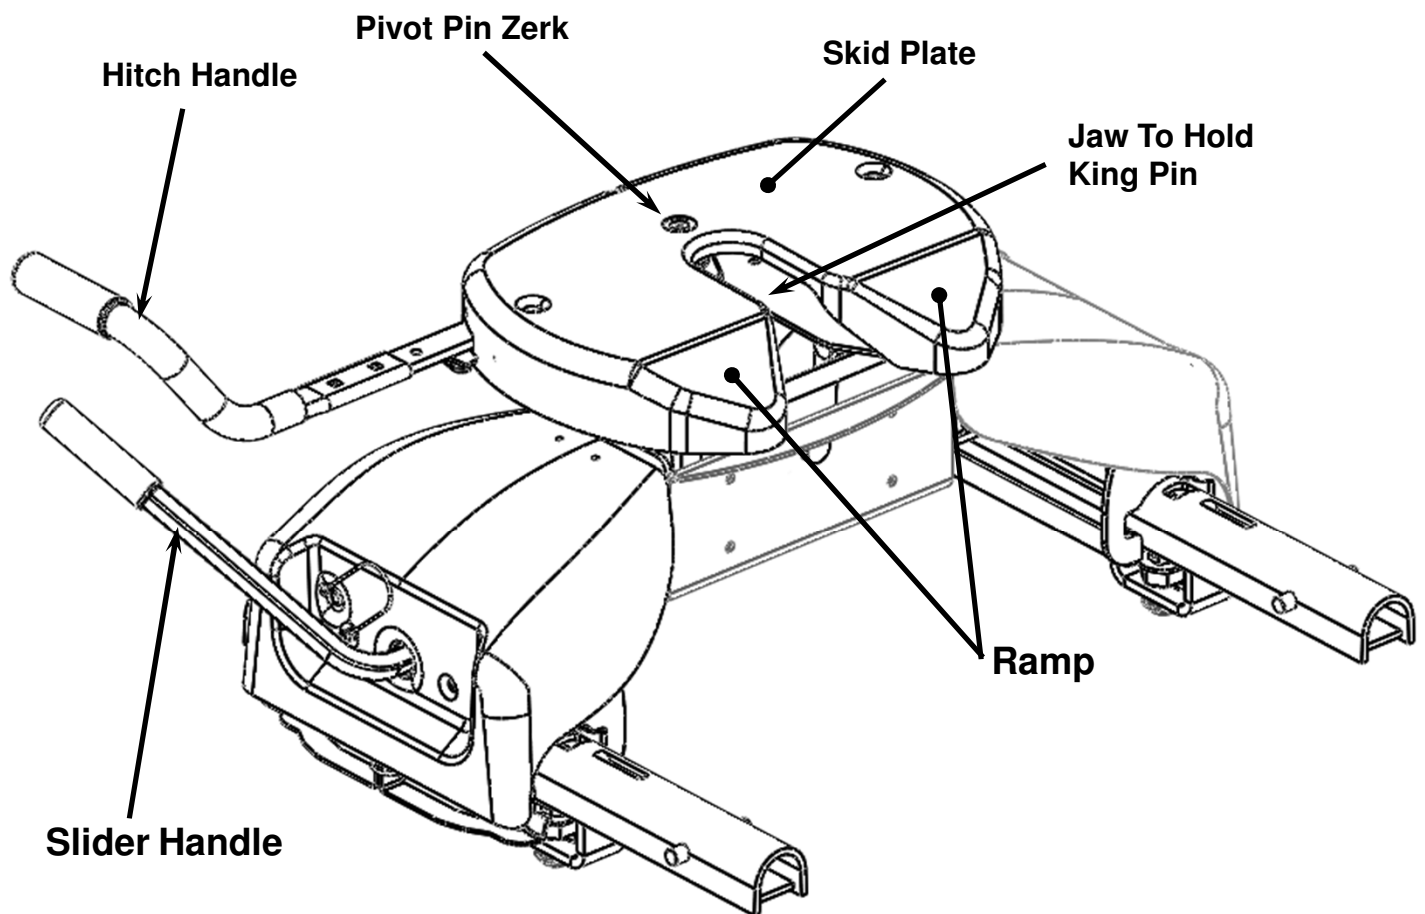

Figure 1
1. Check all the boxes for all the components listed in Figure 1 and become familiar with component terminology.